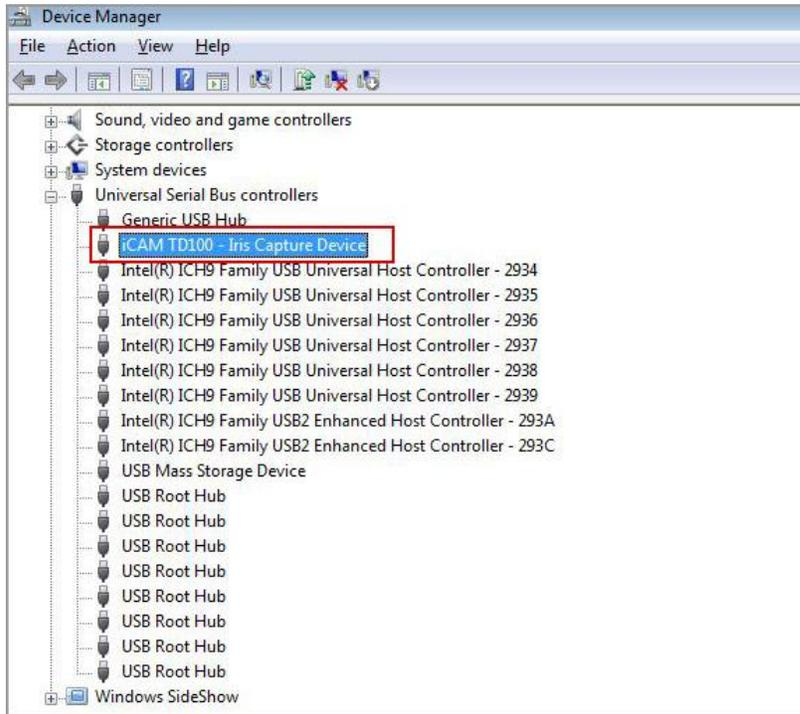

Fig. 5
3. Locate the Universal Serial Controllers section *while the iCAM TD100 is connected* to determine if the driver is installed successfully as shown in Fig. 5.